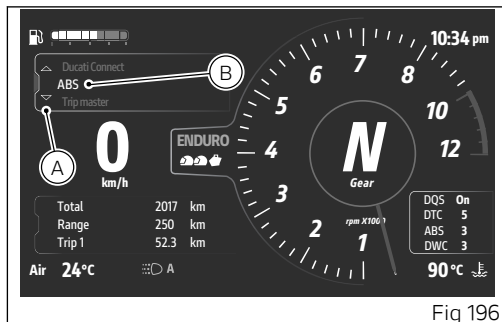

Fig 196
- Select the Interactive Menu (A, Fig 196) by pressing and holding the joystick in position ▲ for a long time.
- Use the joystick ▲ ▼ to select "ABS" (B, Fig 196) and press ENTER.